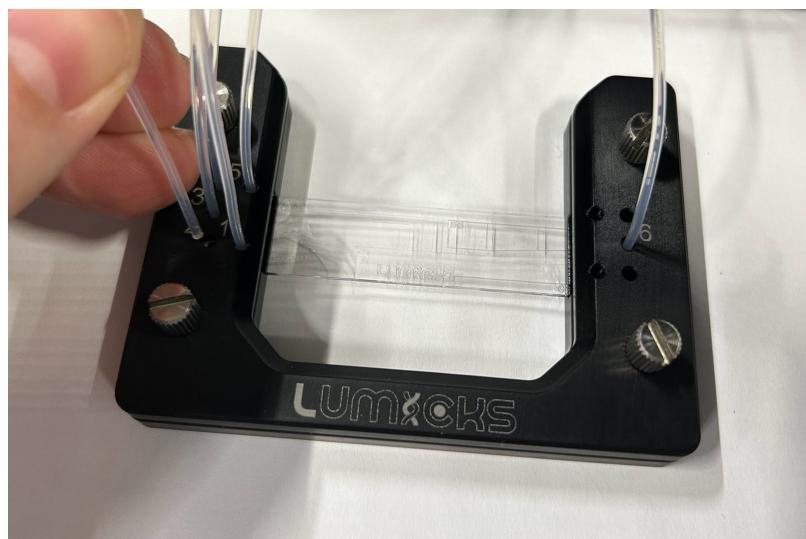

Figure 12.2.2: Figure: Gently pull out the tubing one by one.
3. Gently pull out the tubing, one by one (see Figure 12.2.2).